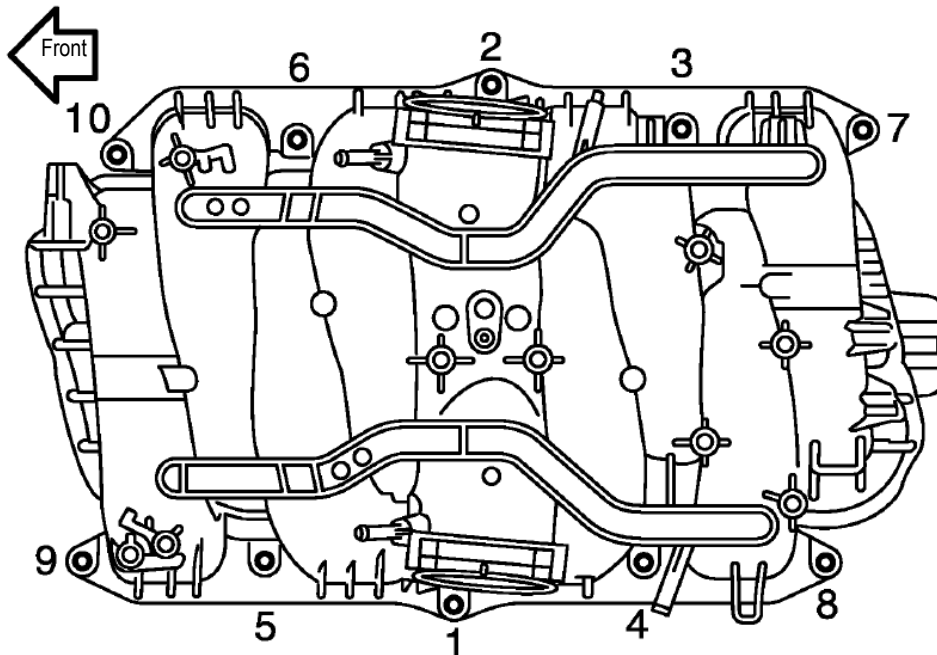

Figure 29m
- Start intake manifold bolts by hand and then tighten in the order shown in Figure 29m: